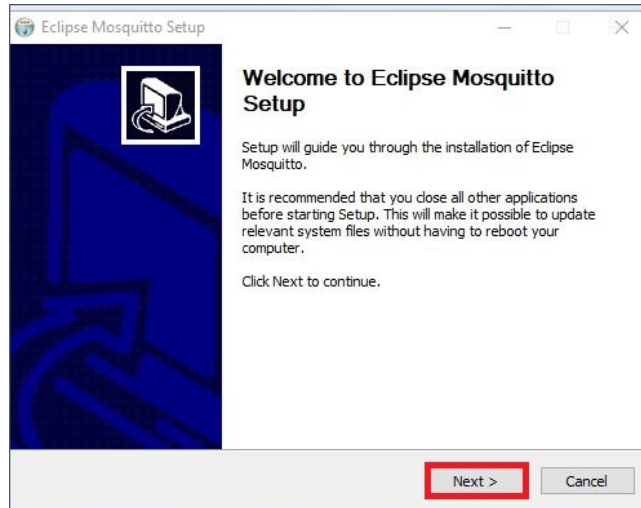

Figure 4.5: Start of Fast Mode installation
5. Click "Next >" to begin the installation, as shown in Figure 4.5.